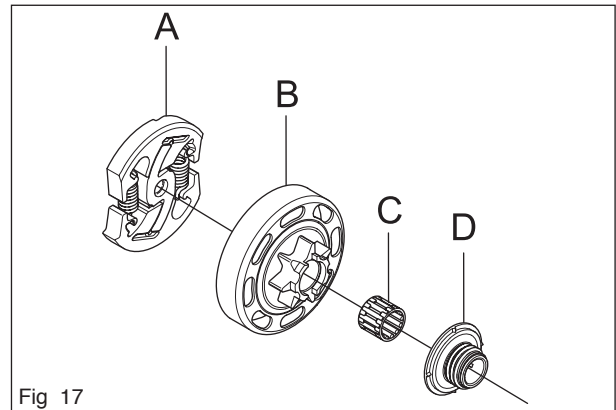

Fig 17
Remove the centrifugal clutch (A). Remove the clutch drum (B), needle bearing (C) and pump drive wheel (D) (see figure 17).